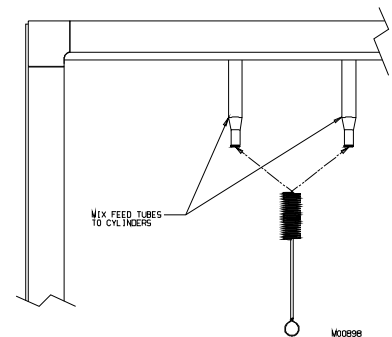
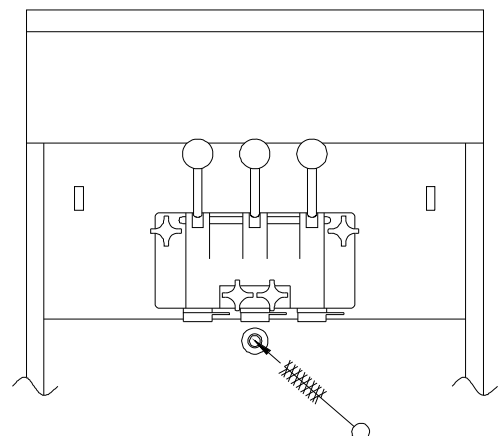

Figure 6-9 Brush inside of cylinder mix feed tubes.
Figure 6-10 Brush inside of drain tube
4. Using a warm dish detergent solution thoroughly brush; the mix feed tubes from the refrigerated cabinet to the cylinders as shown in figure 6-9, the inside of the cylinders including the back wall, and the inside of the drain tube, as shown in figure 6-10. Then rinse with clear water and brush with sanitizing solution.